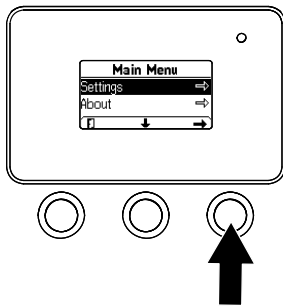

Figure 20
1. From the MAIN MENU, use the center button to scroll down to the SETTINGS MENU and press the right button (Figure 20).